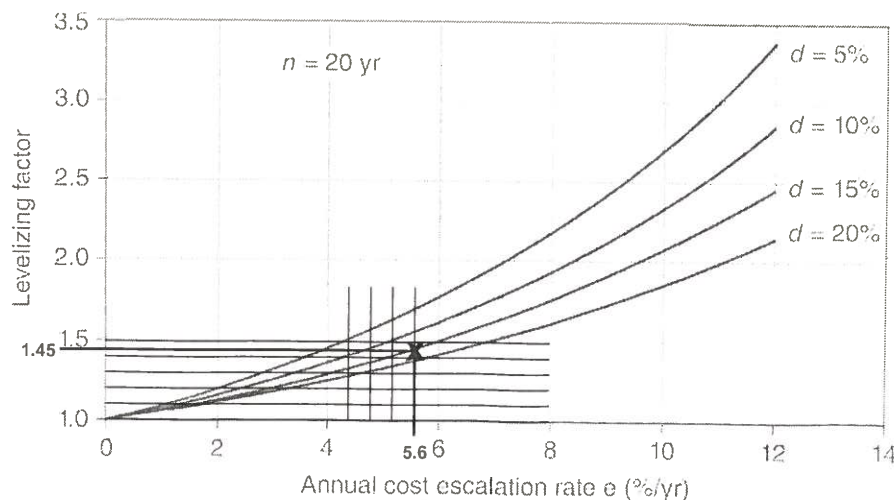

Fig. A.3 Levelizing factor of a function of the escalation rate of annual costs e , with the owner's discount rate d as a parameter.
b. With local utility electricity costing \$0.11/kWh, at what rate would that price have to escalate over the 20-year period in order for the levelized cost of utility electricity be the same as the cost of electricity from the PV system? Use Figure A.3 and assume the buyer's discount rate is 15%.
b) CONT FROM ANNOTATED FIG A.3 THE